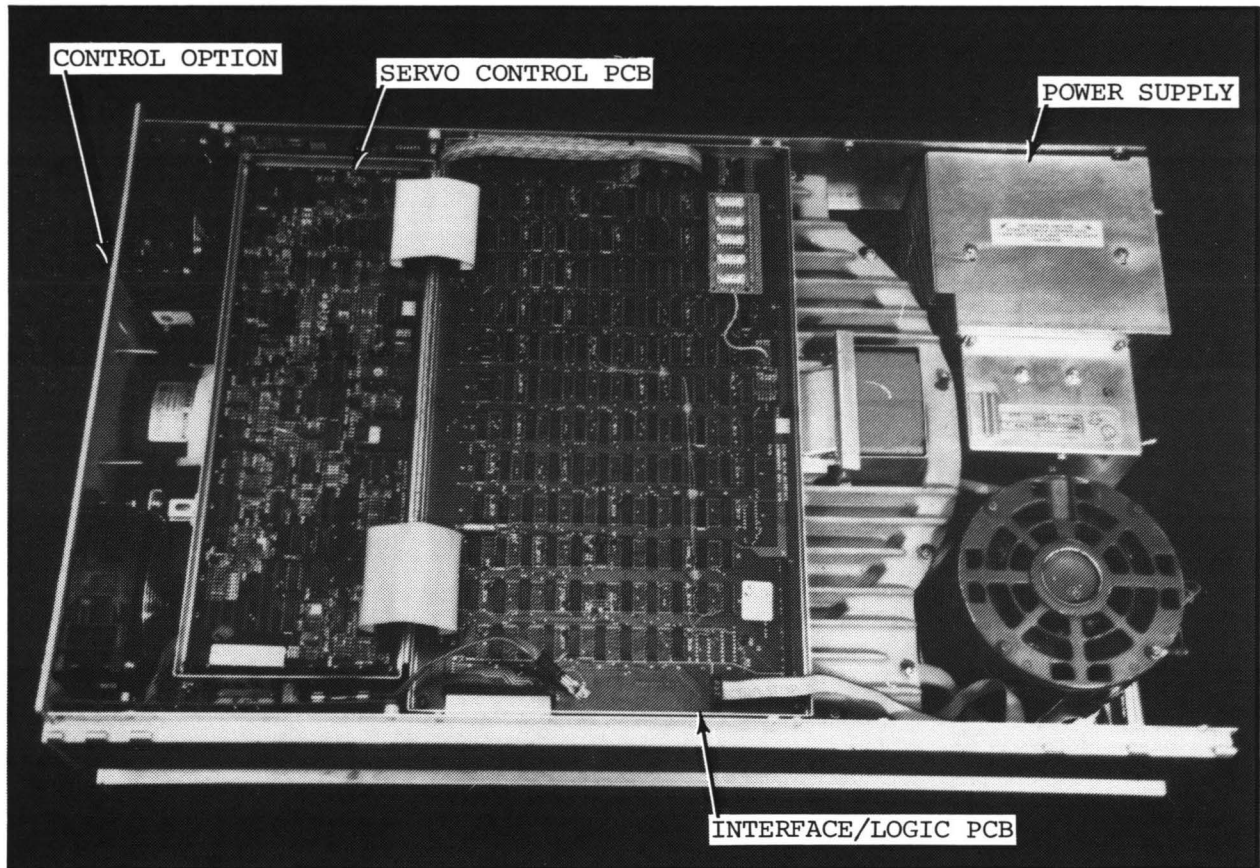

Figure 4. Reflex I Components
- Interface/Logic PCB (See Fig. 4)
- Servo Control PCB (See Fig. 4)
- Power Supply (See Fig. 4)
- Control Option (See Fig. 4)